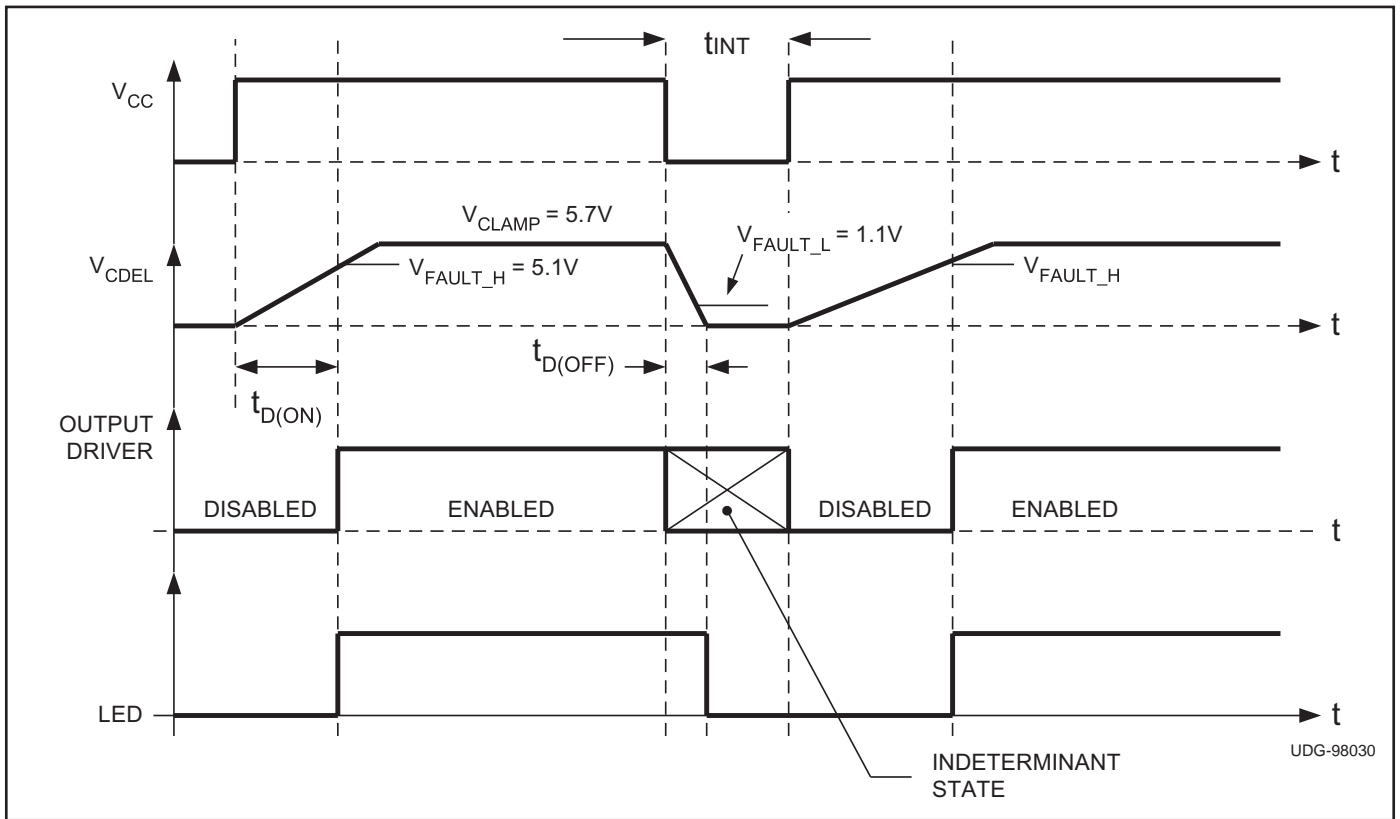

Figure 3b. Power Interrupt Fault Operation
**LED:** Open collector output intended to drive an LED during overcurrent and power interrupt faults (see Figures 3b and 3c).